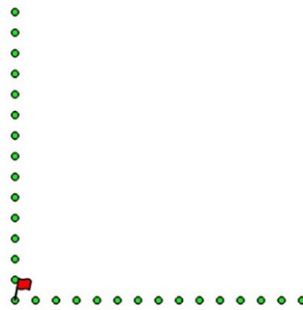

Figure 7-9: Marking the line spacing and starting positions for every line
Step 3 – Mark the Line Start Positions – with the tape measure still on the ground, mark the line start positions based on the line spacings (Figure 7-9). Usually flags or paint work for grass, and chalk or paint on concrete. It is also recommended to paint a distance measurement every so often, in case you forget which line you're on.